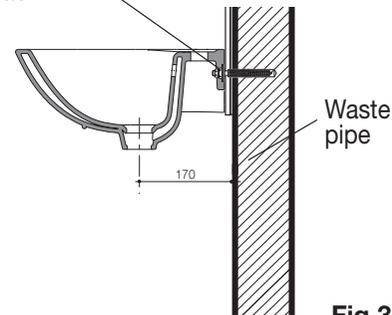

Fig 3
- 5- Locate basin onto the Fixing Screws on the wall. Insert plastic bushes, metal washers and fasten to wall with fixing nut. To complete assembly as detailed in **Figure 3**.
- 6- The Plastic Bush allows for leveling adjustment if required by rotating the hexagonal head bush, the basin will be slightly raised or lowered as shown in **Figure 3**.